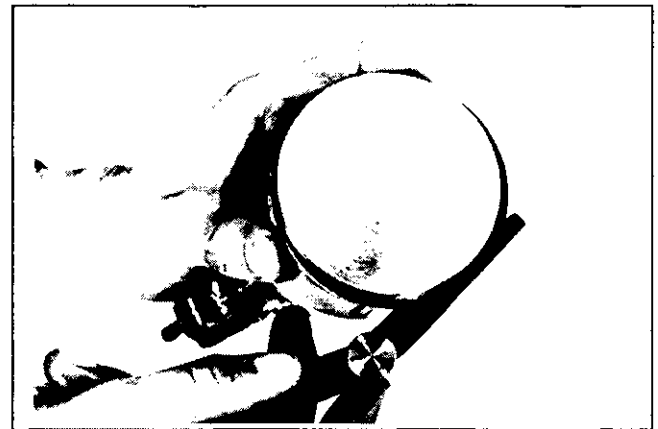

Figure 10-8. Measuring Piston Ring Side Clearance.
4. After installing the new compression (top and middle) rings on piston, check piston-to-ring side clearance. Maximum recommended side clearance is **0.040/0.105 mm (0.0016/0.0041 in)**. If side clearance is greater than specified, a new piston **must** be used. Refer to Figure 10-8.